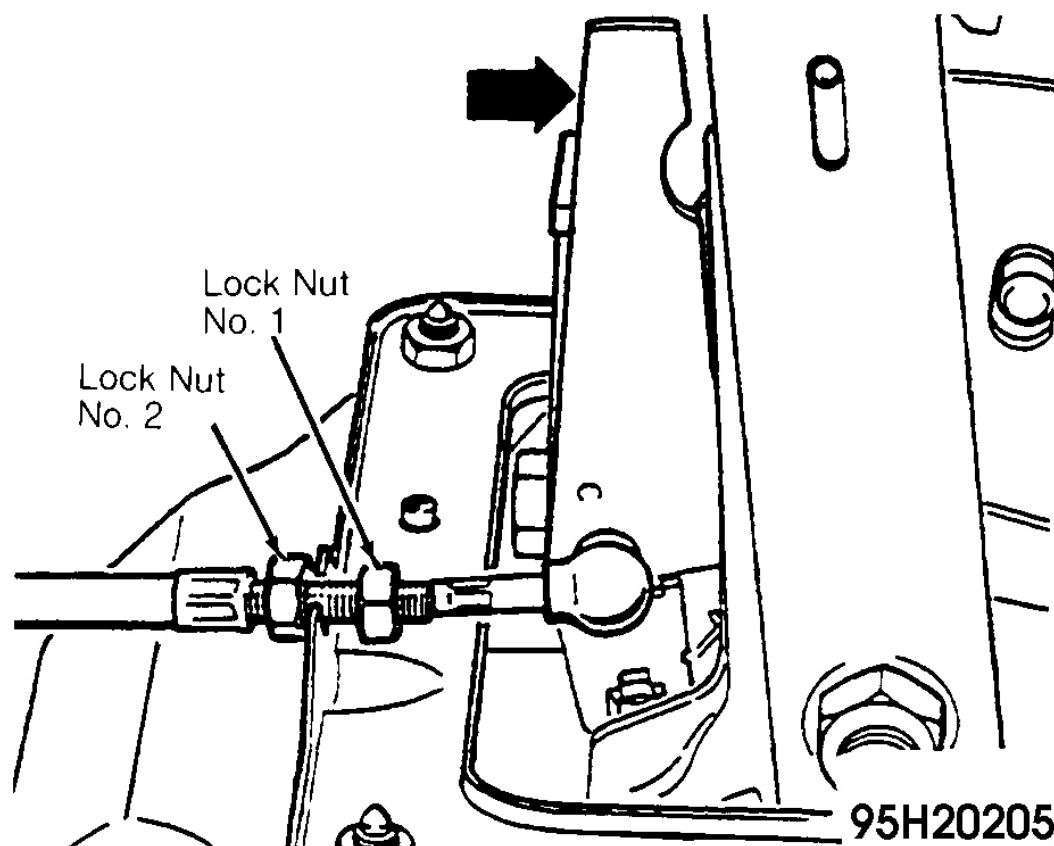

Fig. 4: Adjusting Shift Lock Cable
2. Press locking lever to touch selector lever. See **Fig. 4** . Tighten lock nut No. 2 tight while holding locking lever. Tighten lock nut No. 1 against lock No. 2. Ensure gear selector operation is correct.